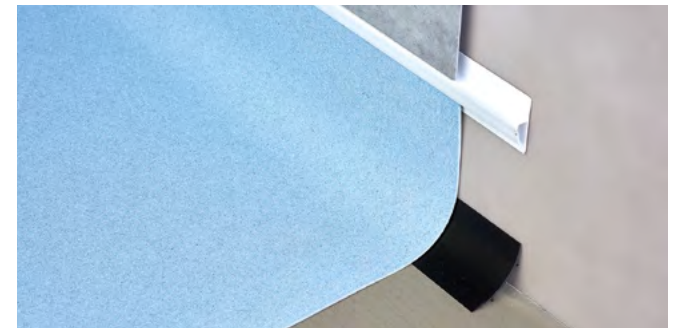

Figure 3.8 Fitting to Ceramic tiles
3.14 FITTING TO CERAMIC WALL TILES (CT strip) Figure 3.8